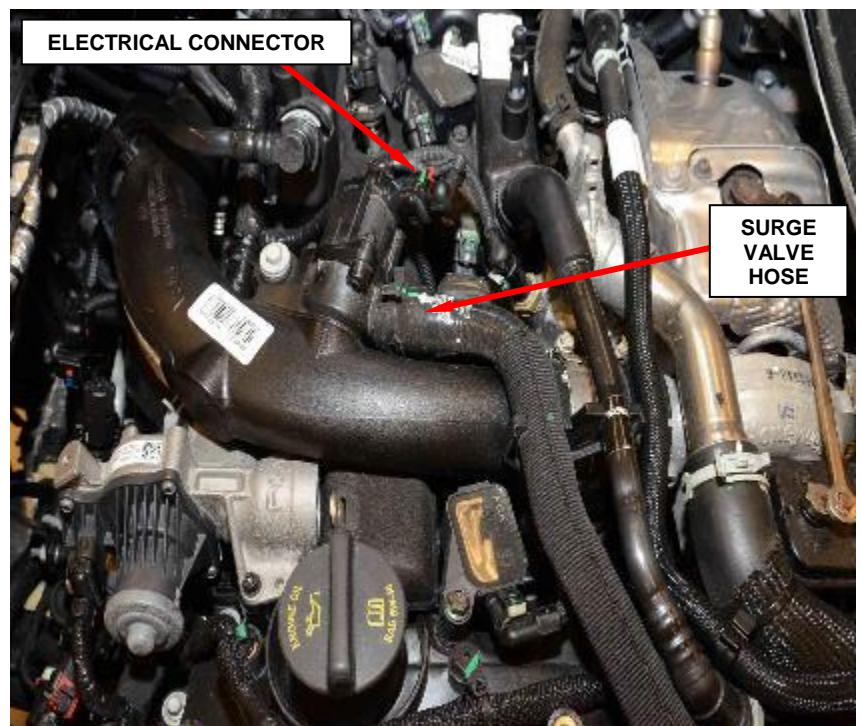

Figure 4 – Surge Valve Hose
6. Remove the surge valve hose from the valve on turbocharger air outlet pipe. Disconnect the electrical connector (Figure 4).